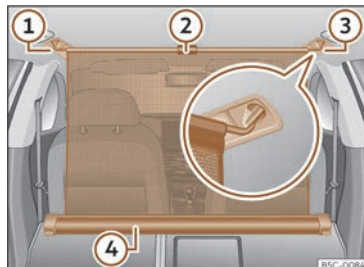

Fig. 184 In the boot: net partition hooked into the rear seat backrests.
- Pull up handle >>> **Fig. 184 ②** to remove the net from the casing **④**.
- Hook in the net partition on the right or left side >>> **Fig. 184 ③** (magnified image).
- Hook in the net partition into the housing on the other side >>> **Fig. 184 ①** by pulling the rod.
The net partition is properly assembled when the T-shaped ends are firmly secured in the corresponding housings >>> **Fig. 184 ③** and **①**.
- Roll up the net into the casing >>> **Fig. 184 ④** lowering it with your hand.